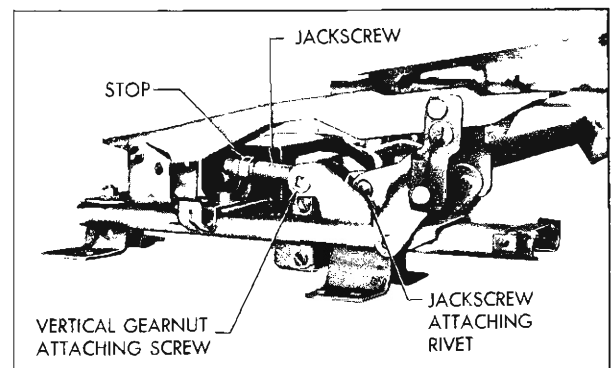

Fig. 22-6 Outboard Bucket Seat Adjuster
3. Using a clutch type screwdriver or other suitable tool, remove shoulder screws securing linkage to vertical gear nut. (Fig. 22-6).
4. Remove jackscrew "down" stop from jackscrew (Fig. 22-6).
3. As a bench operation, remove jackscrew-to-adjuster linkage attaching rivet and remove jackscrew from adjuster assembly (Fig. 22-6).